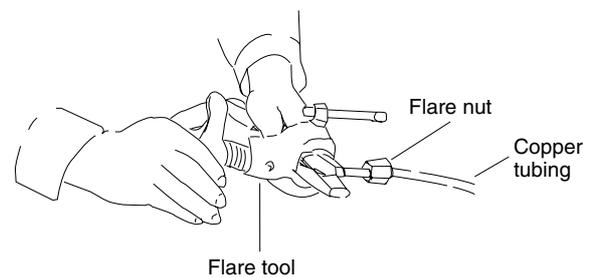

Fig. 6-3
- (3) Remove the flare nut from the unit and be sure to mount it on the copper tube.
- (4) Make a flare at the end of copper tube with a flare tool.* (Fig. 6-3)